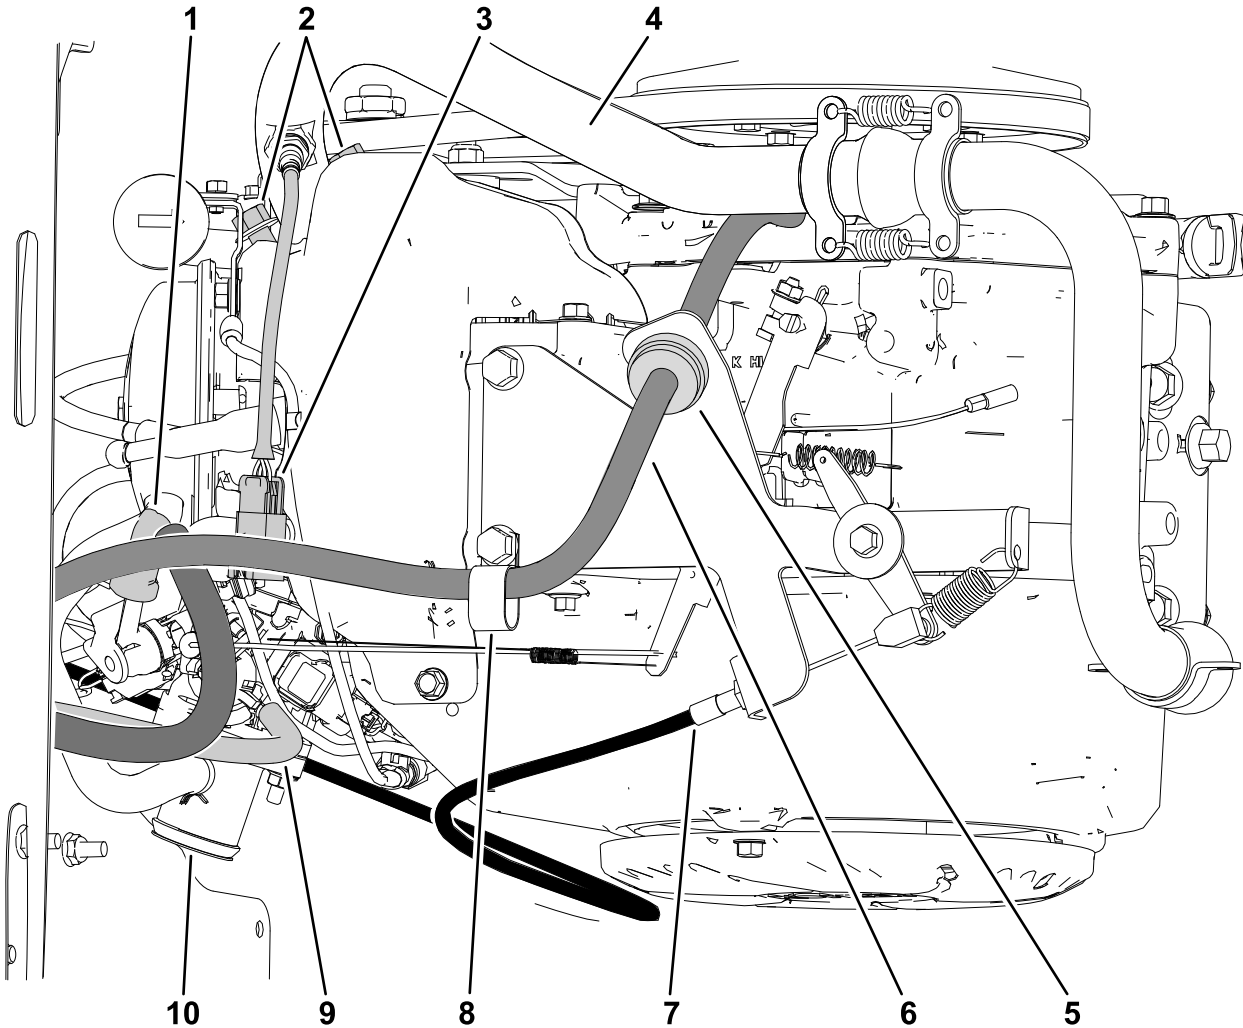

Figure 3
1. Disconnect the accelerator cable from the engine from the ball joint on the throttle lever and remove the cable from the throttle bracket (Figure 3).
2. Loosen the hose clamp that secures the air-intake hose to the engine and the air-cleaner assembly. Remove the intake hose (Figure 3).
3. Disconnect the oxygen sensor from the engine wire harness (Figure 3).
4. Remove the 2 flange-head bolts securing the exhaust manifold and gasket. Retain the nuts and remove the exhaust assembly (Figure 3).
5. Disconnect hoses from the electronic fuel-injected engine (Figure 3):